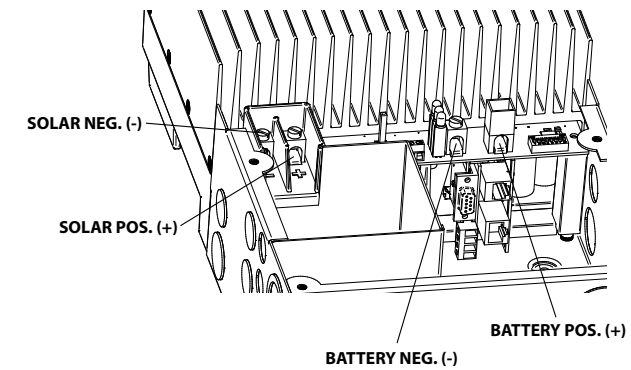

Figure 3-14. Power Terminal Locations
**Connect the four (4) power conductors shown in Figure 3-14 as described in the following steps:**
- Connect the battery (+) wire to the battery (+) terminal on the TriStar MPPT 600V. The battery (+) terminal has a red cover. See Figure 3-14.
- Connect the battery (-) wire to the battery (-) terminal on the TriStar MPPT 600V. See Figure 3-14.
- Replace cover, and secure with four (4) screws.